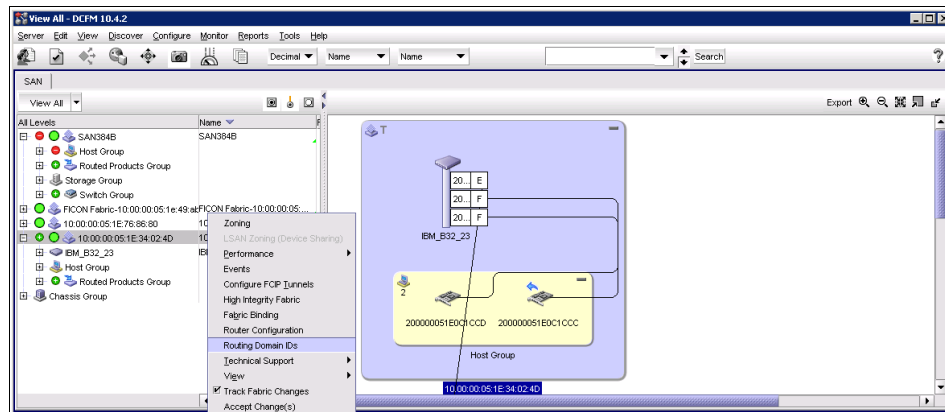

Figure 9-26 Routing Domain ID Menu
1. Select the fabric for which you want to configure phantom domains. Select **Configure** → **Routing Domain IDs**. See Figure 9-26.